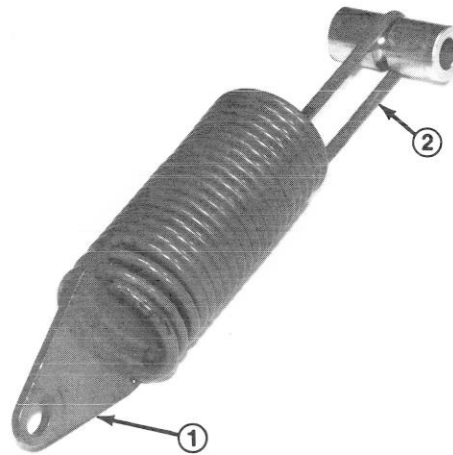

Figure 12
2. Twisting spring, thread it thru holes in spring end until spring passes thru all four holes, (Fig. 12) and long hook end of spring is aligned with spring end.